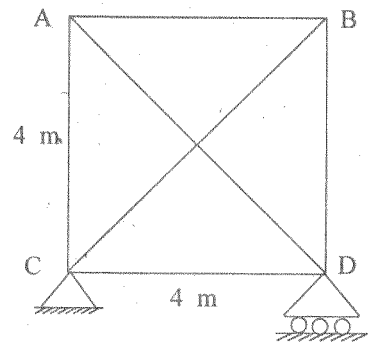

Fig. 6
14. For the redundant truss, shown in Fig. 6, determine the forces in all the members if BC is short in length by 6 mm and is forced into the position. Take $A = 100 \text{ mm}^2$ and $E = 2 \times 10^5 \text{ N/mm}^2$ for all the members.